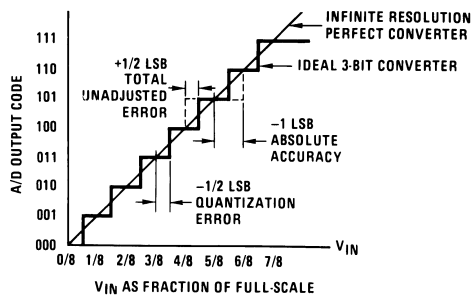
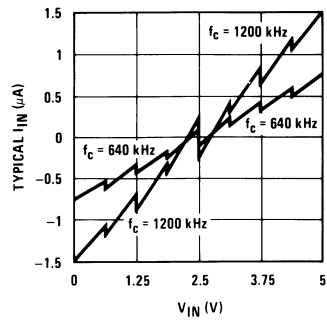

Figure 4. 3-Bit A/D Absolute Accuracy Curve
Figure 7. Comparator  $I_{IN}$  vs.  $V_{IN}$
- (1) Total unadjusted error includes offset, full-scale, and linearity errors. See Figure 4. None of these A/Ds requires a zero or full-scale adjust. However, if an all zero code is desired for an analog input other than 0.0V, or if a narrow full-scale span exists (for example: 0.5V to 4.5V full-scale) the reference voltages can be adjusted to achieve this. See Figure 14.
- (2) Two on-chip diodes are tied to each analog input which will forward conduct for analog input voltages one diode drop below ground or one diode drop greater than the  $V_{CC}$  supply. The spec allows 100 mV forward bias of either diode. This means that as long as the analog  $V_{IN}$  does not exceed the supply voltage by more than 100 mV, the output code will be correct. To achieve an absolute 0  $V_{DC}$  to 5  $V_{DC}$  input voltage range will therefore require a minimum supply voltage of 4.900  $V_{DC}$  over temperature variations, initial tolerance and loading.
- (3) Comparator input current is a bias current into or out of the chopper stabilized comparator. The bias current varies directly with clock frequency and has little temperature dependence (Figure 7).
The average value of the comparator input current varies directly with clock frequency and with  $V_{IN}$  as shown in Figure 7.